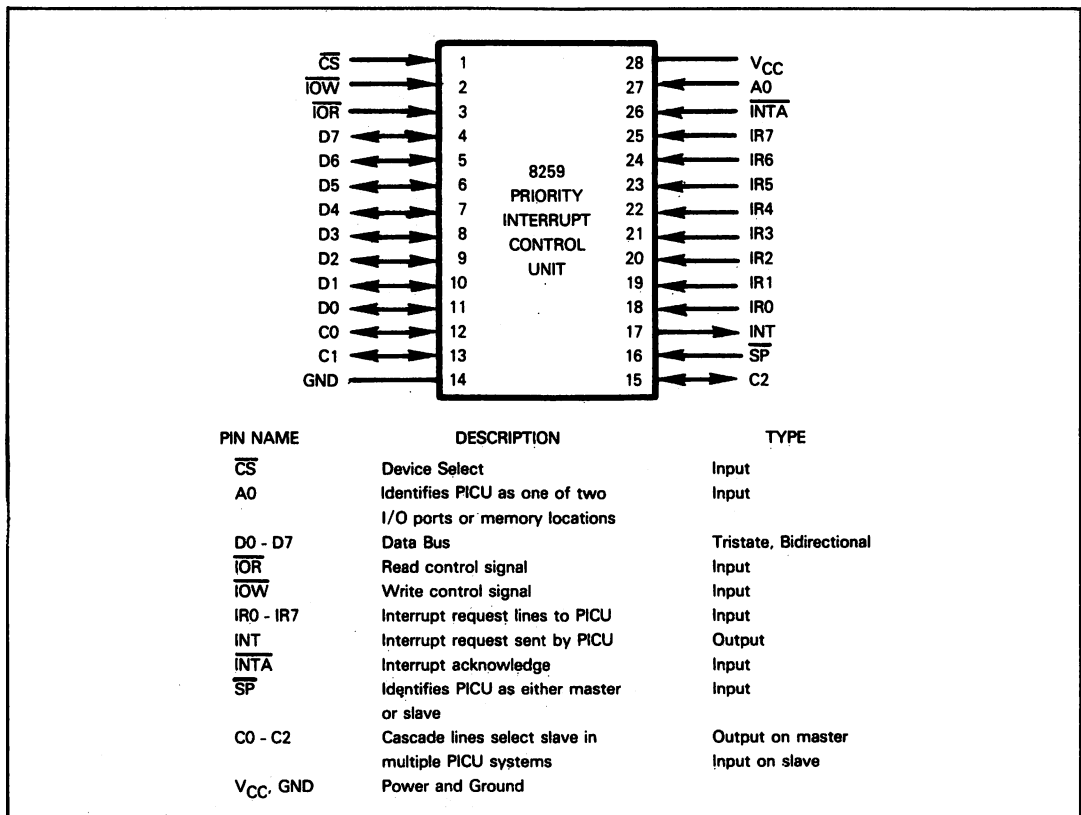

Figure 4-35. 8259 Priority Interrupt Control Unit Signals And Pin Assignments
**8259 PICU pins and signals are illustrated in Figure 4-35; we will summarize these signals, then discuss how the PICU is used.**